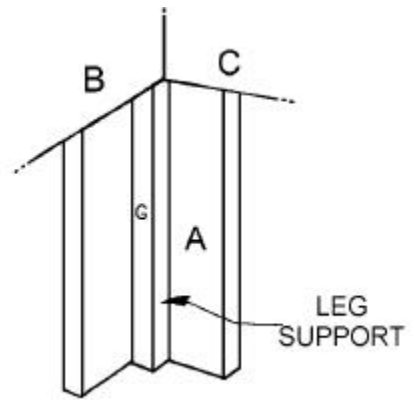

Figure 4
8. Attach one leg support (G) to the inside corners of each of the four legs as shown in *Figure 4*. Use three or four screws on each side of each leg support (G).